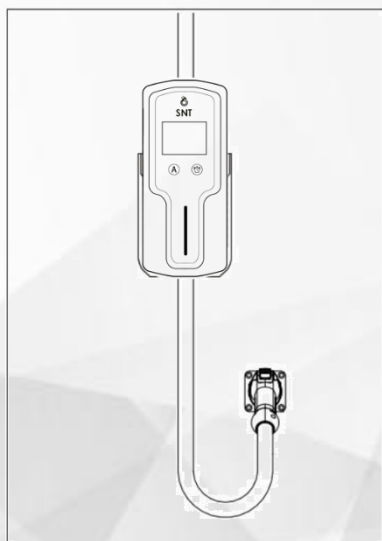

Fig.4
5. Refer to the Fig.4 to return the objects to their original positions or storing the mobile charger into the device bag.